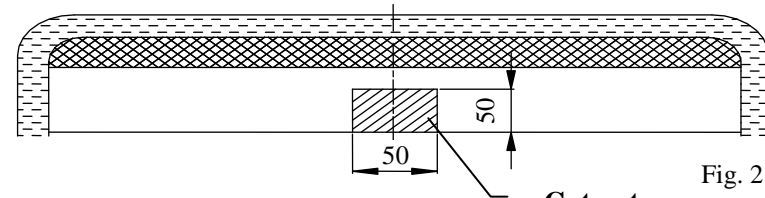

Fig. 2
4. The main bar of the towing hitch (pos. 1) put into the boot and through already made four holes A fix with ball bracket (pos. 4) using bolts M10x35mm (pos. 9) from accessories.
5. From below the car put distance sleeves L= 58mm (pos. 5), and next through holes B fix using bolts M10x90mm – pos. 8 (use big washers – pos. 10).
6. From the bumper side through holes C drill holes  $\varnothing 1$ mm and fix using bolts M10x35mm (pos. 9) from accessories (use big washers – pos. 10).
7. Install the bumper after cut out of its fragment (see fig. 2).